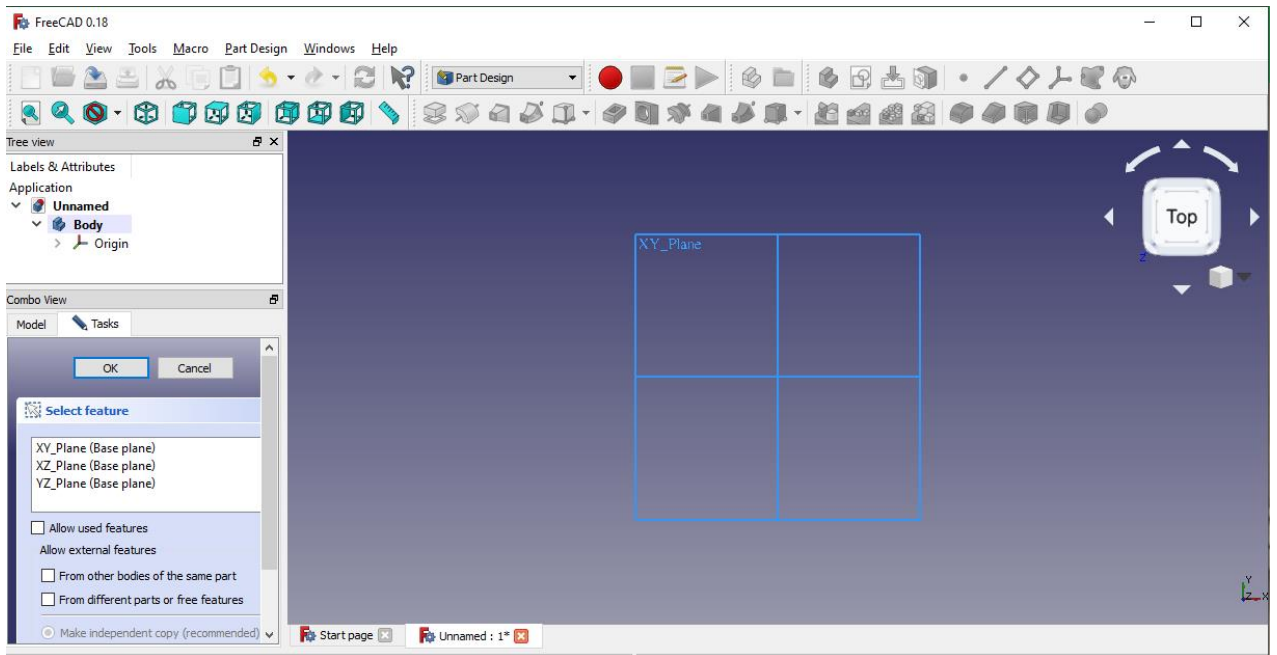

Figure 13 – Working with a cube **XY-Plane**
3. Choose a tool **XY-Plane**. In the latest edition **FreeCAD** you can continue by simply clicking (Figures 13 and 14).